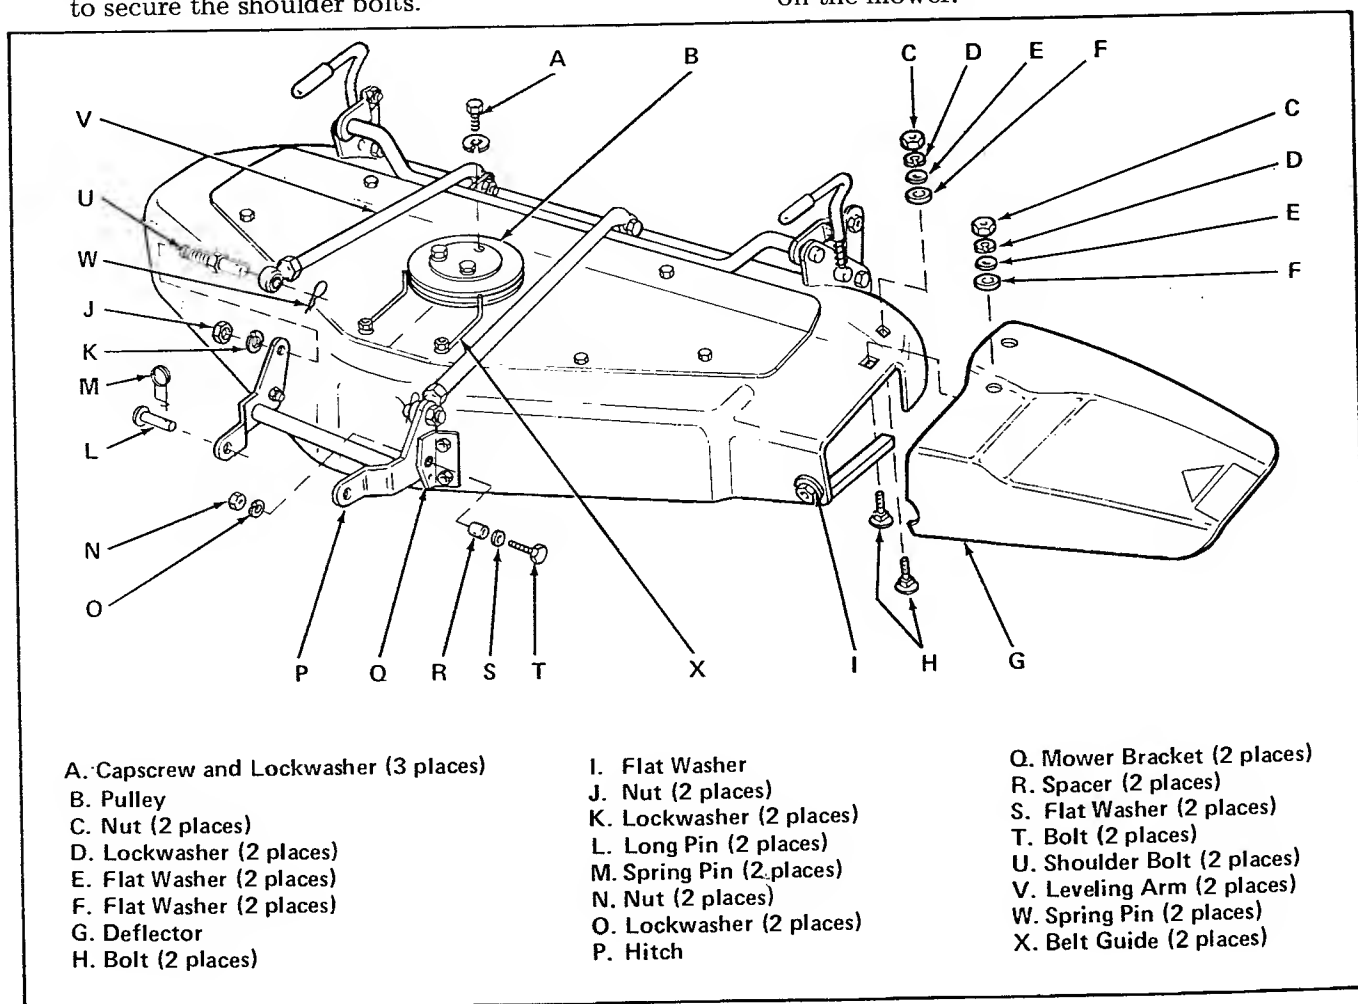

Figure 23. Assembly of 42" Mower with 4-1/2" Pulley
1. Align the hitch (item P, figure 23) with the upper holes of the mower mounting bracket (item Q).
4. Insert the threaded ends of the shoulder bolts (item U) through the holes in the hitch as shown in figure 23.